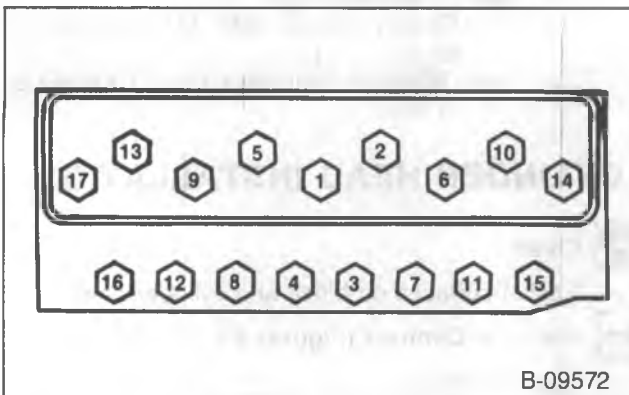

Figure 70—Cylinder Head Bolt Tightening Sequence (5.0L and 5.7L Engines)
- Bolts a little at a time using the sequence shown in figures 70 or 71 until the proper torque is reached: